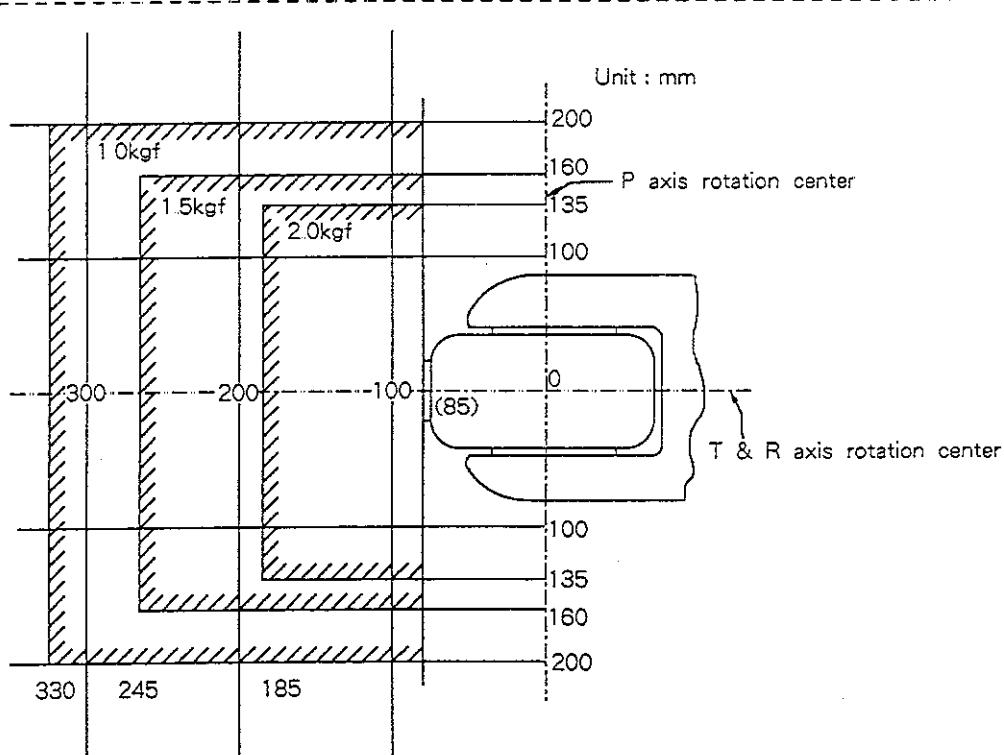

Fig. 5.2 Load center of gravity
- Load during measurement The rated load is applied to the load weight reference point shown in Fig. 5.2.